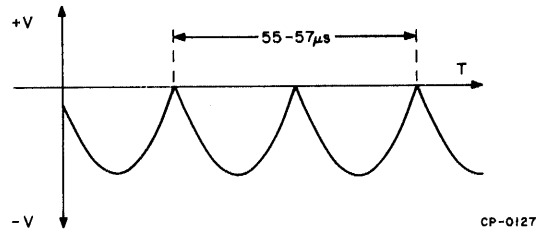

Figure 5-7 Compressor Waveform for FWD and REV
3. Initiate FWD tape motion and measure the compressor waveform for a double-period of 55–57  $\mu$ s (Figure 5-7).
5. Initiate REV tape motion and measure the compressor waveform for a double-period of 55–57  $\mu$ s (Figure 5-7).